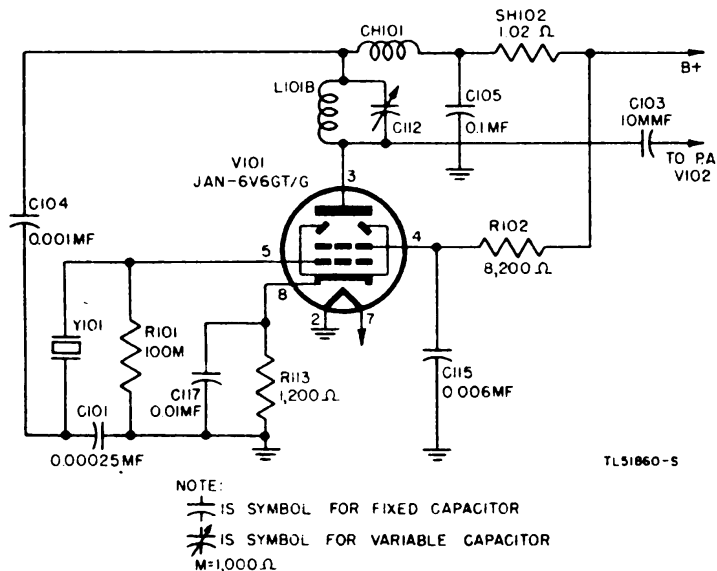

Figure 35. Master oscillator, h-f band, simplified diagram.
b. High-frequency Band Operation (fig. 35).
(1) When the TRANSMIT BAND SWITCH is in the h-f position, crystal Y101 and capacitor C104 are no longer connected direct to ground but are connected to ground through capacitor C101 (fig. 35). Thus the plate circuit conditions are modified and the plate load now consists of tuned circuit L101B and C112 in addition to r-f choke CH101.
(2) The r-f feedback voltage is now developed across choke CH101, and the amount applied to the grid circuit is controlled by capacitors C101 and C104. By properly selecting the value of these capacitors, sufficient feedback may be obtained to sustain oscillations over the frequency range of the transmitter. Since the grid-plate capacitance of the tube is no longer the factor controlling oscillations, the impedance of the tuned circuit is not critical, and L101B and C112 may be tuned either to the fundamental crystal frequency or to a higher harmonic without materially affecting the efficiency of the tube as an oscillator.
(3) The remainder of the oscillator circuit functions in a manner similar to that previously described for the l-f band.